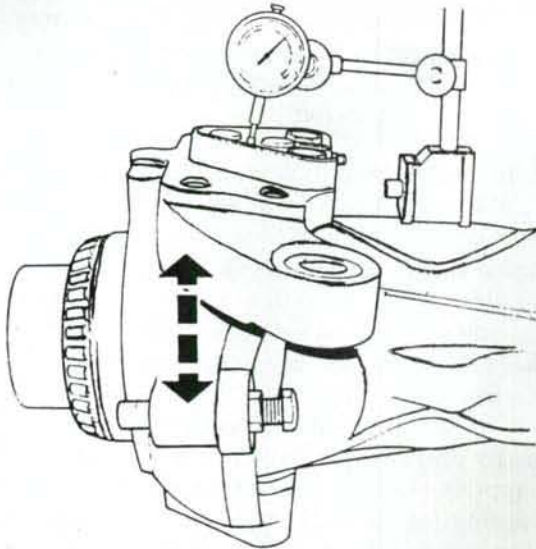

Fig. 14—Adjust the king pin bearings to obtain free play of 0-0.10 mm (0-0.004 in.). Refer to text.
Reassemble by reversing the disassembly procedure. On early axle originally equipped with shims (26), sufficient thickness of shims must be installed to provide king pin with 0-0.1 mm (0-0.016 in.) free play. To determine shim pack thickness required to set free play within specified limits, first position knuckle housing on axle housing and install upper retainer (31) without shims. Install lower retainer (25) with enough shims (26) to provide some end play and tighten upper and lower retainer mounting screws to 190 N·m (140 ft.-lbs.) torque. Position a dial indicator as shown in Fig. 14 and check vertical play